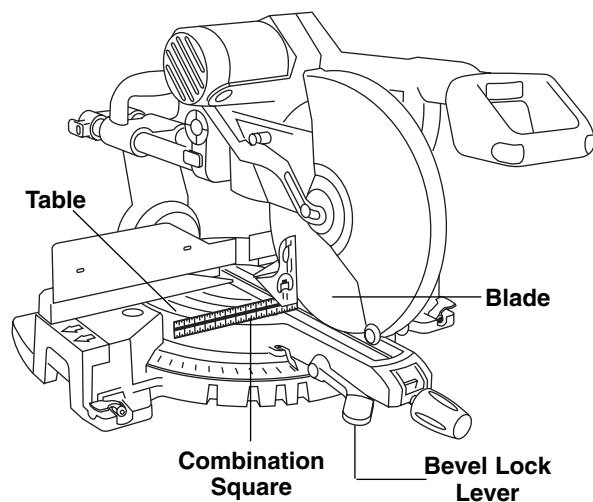

Figure 5. Blade Square to Table
Lower the blade and engage the lock pin. Use a combination square to check blade squareness to the table. Place the square on the table and press it against the blade. If the blade does not contact the full length of the square, (figure 5), follow the alignment procedure.
5. Place combination square on table and against fence. (See figure 5)
Use a head of combination square to check blade at the 45° stop. Place the combination square head on the table and press it's 45° surface against the blade. If the blade does not contact the full length of the square, (figure 5), follow the alignment procedure.